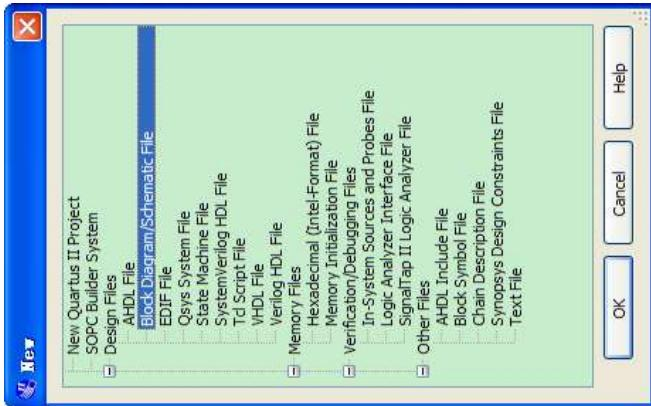

Figure 6-12 New BDF
1. Select File > New > Block Diagram/Schematic File (see Figure 6-12 to create a new file, Block1.bdf, which you will save as the top-level design).